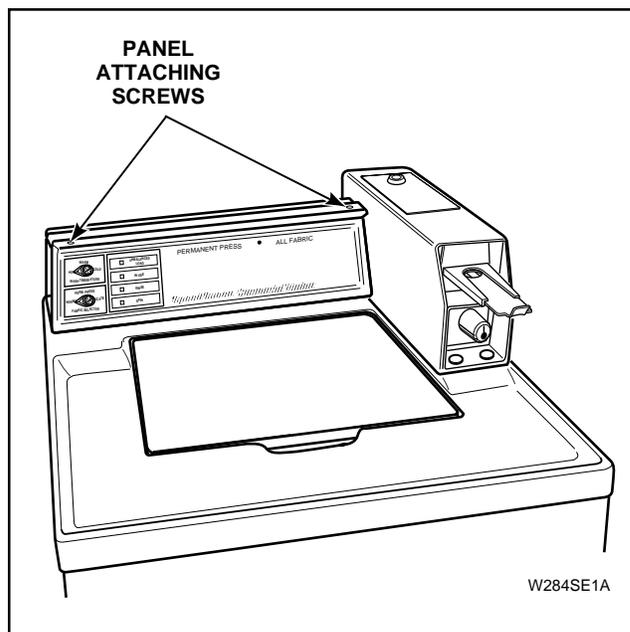

Figure 5
1. Remove two control panel attaching screws and lay assembly forward on a protective pad on cabinet top, *Figure 5*.